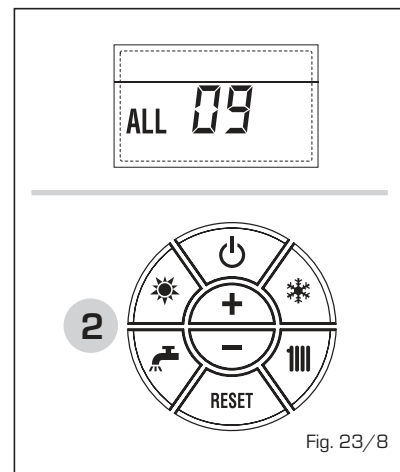

Fig. 23/8
**- ANOMALÍA Sonda AUXILIAR "AL 10" (fig. 23/9)**